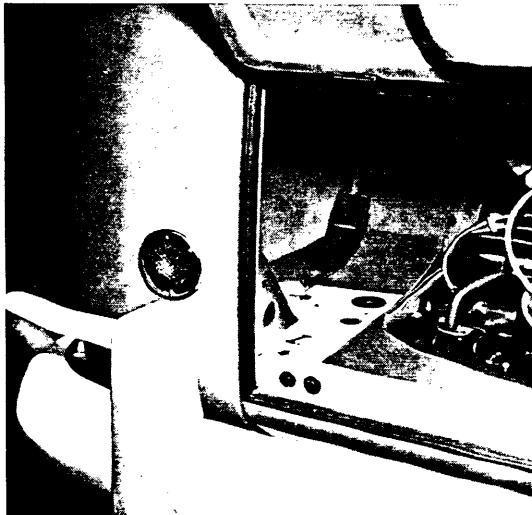

Fig. 3
- 4 - With template I, mark and drill the opening for the exhaust pipe and two holes for the heater mounting in the left engine cover plate (Fig. 3). Clean up edges of holes.